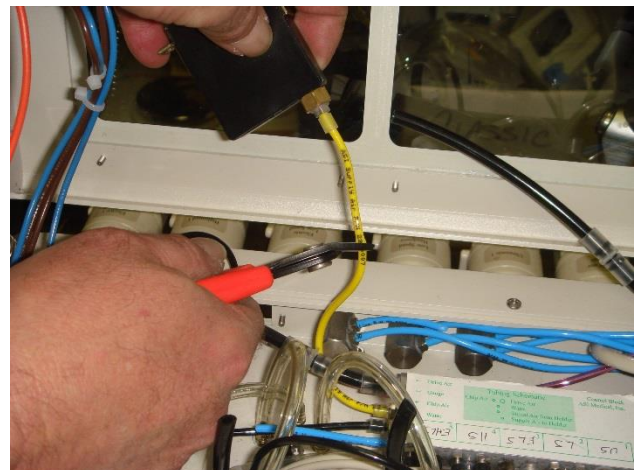

Fig. 4
7. Once you have removed the nuts, pull gauge out and clip yellow tubing. (Fig. 4)